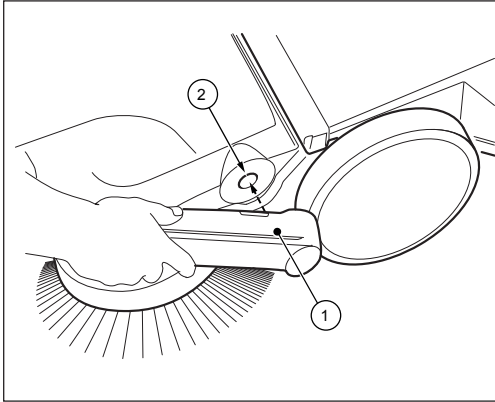

Fig. 7: Handle fitting assembly (haaga 375)
1. Position the handle fittings (1) as shown in Figure 7.
2. Insert the handle fittings in this position into the intended receptacle (2) of the sweeper. It may be necessary to slightly hit the handle fittings in this step.